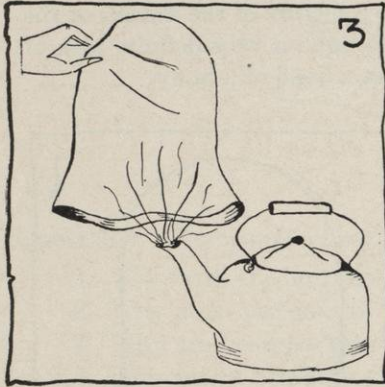

FIG. 3.
- f. Soften the hood or the body very well in the steam before placing it on the crown block. This is to make the felt stretch easily and to avoid tearing it (see Figure 3).